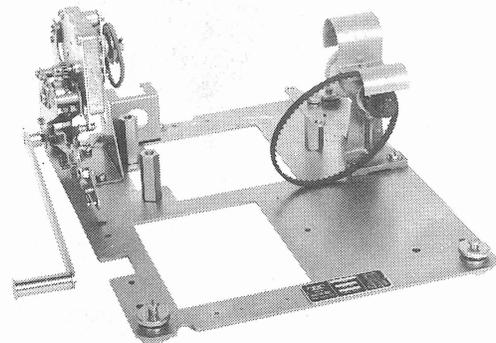

Figure 1 - ROTR Base
1.03 The reperforator base (Figure 1) consists of an intermediate gear mechanism, 9-pin connector, tape winder with hub and reel, and a rubber isolated base plate.